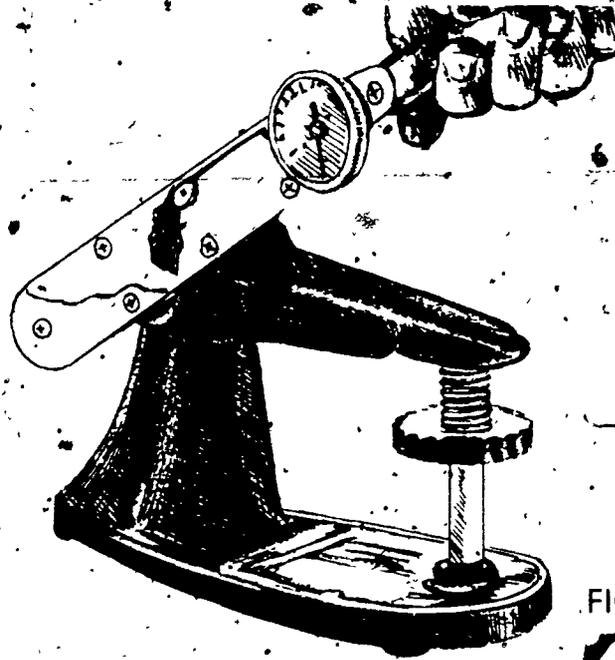

FIGURE 15
3. Check valve spring tension (Figure 15)